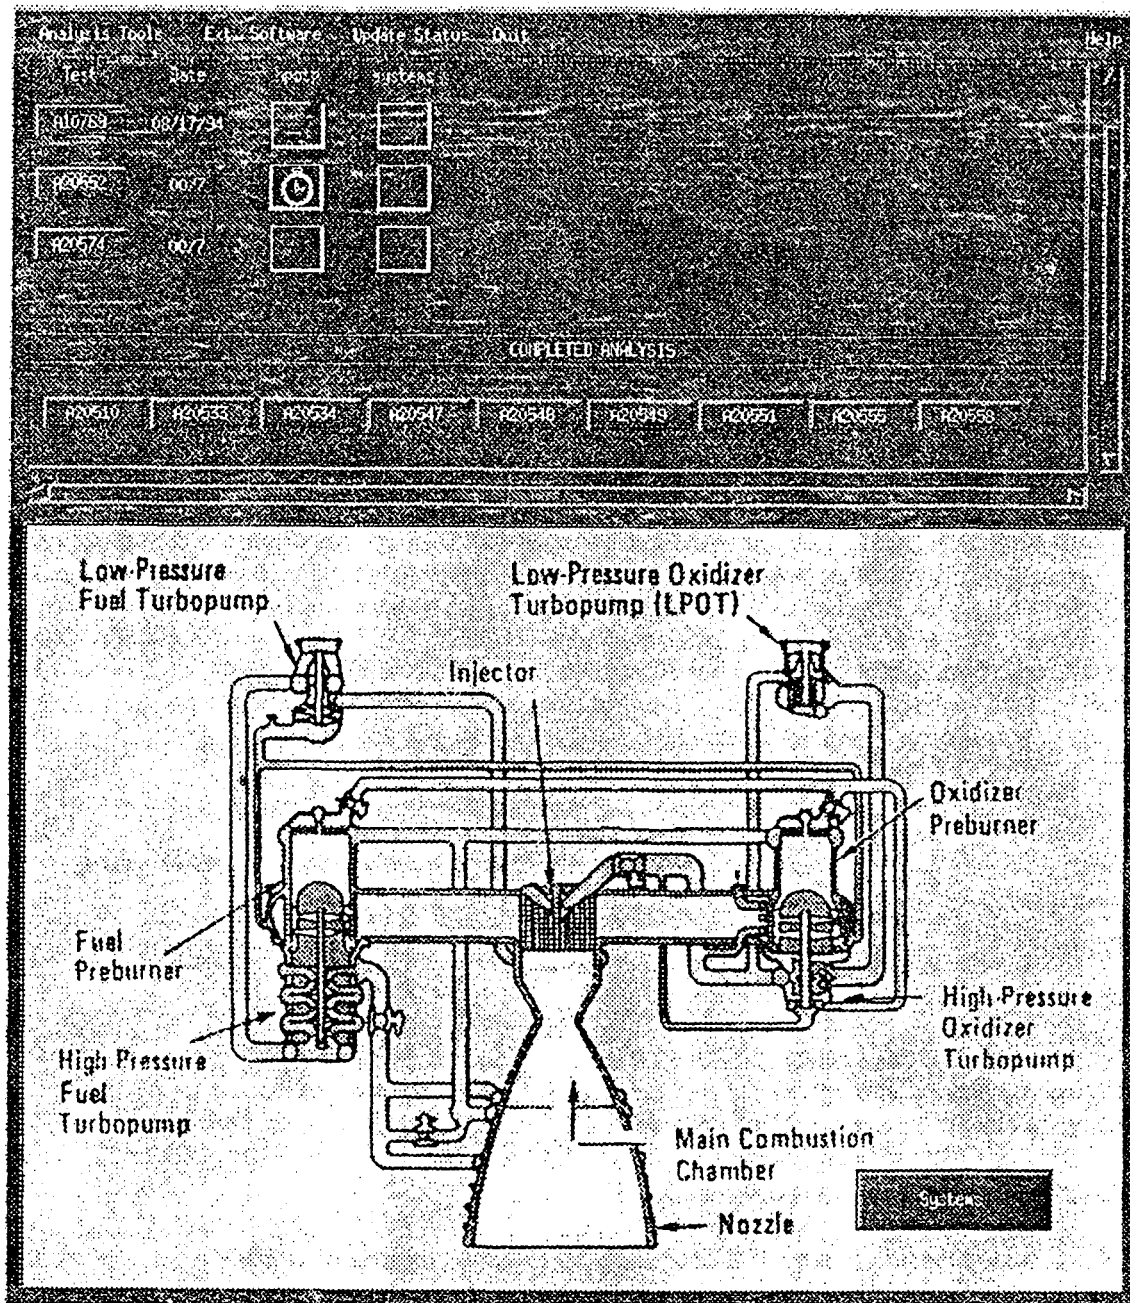

Figure 2. PTDS Graphical User Interface
- Graphical Browser — Allows analysts to view PTDS results using an X-windows-based display (see Figure 2). Implemented in C.